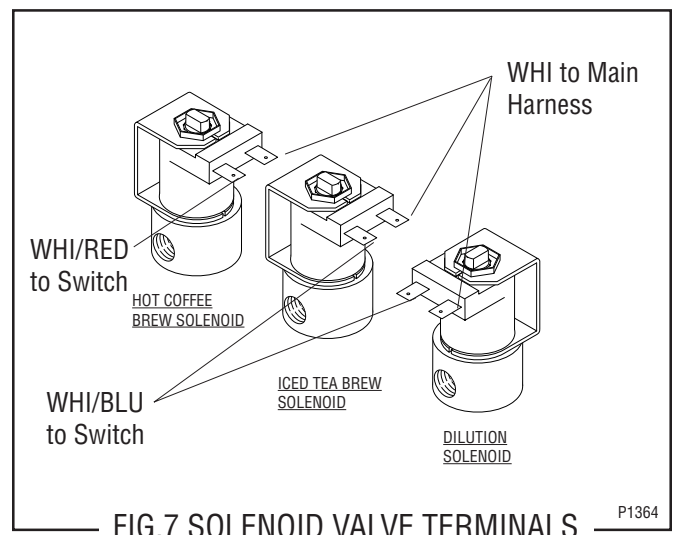

FIG. 7 SOLENOID VALVE TERMINALS
10. Refer to Fig. 7 when reconnecting the wires.